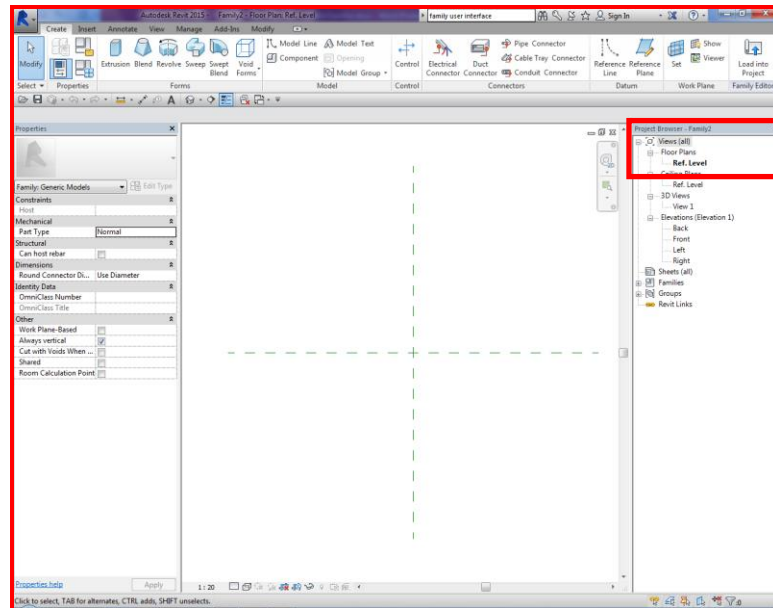

Figure 2.17
4. To begin drafting reference planes, maximize the Floor Plan: Ref. Level view window as shown in Figure 2.17.